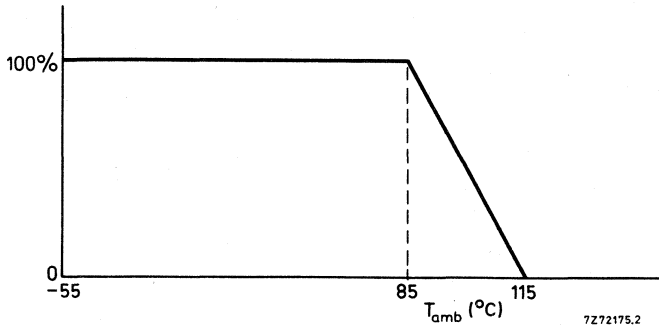

Fig.2 Derating of maximum voltage with temperature.
5. The d.c. working voltage is $\sqrt{2}$ times the r.m.s. working voltage, the crest voltage is 10% higher. For ambient temperatures higher than 85 °C the maximum values must be derated as indicated in Fig.2.